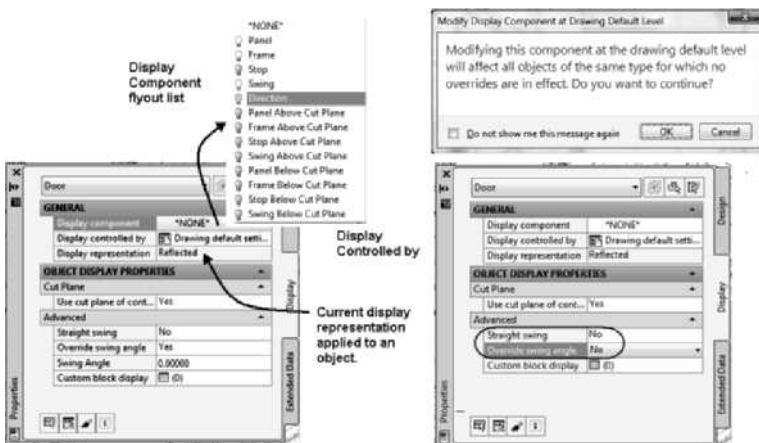

FIGURE 1.60 Setting door display for the Reflected display representation
22. Click on the right viewport. Verify that the display representation of the door is Reflected in the Display tab of the Properties palette. Verify that Display controlled by is set to **Drawing default setting** in the Properties palette. Choose the drop-down list for the Display Component and choose the **Direction** component. Click on the light bulb icon to display the component as shown in Figure 1.60. Since this setting deviates from the drawing default, the **Modify Display Component at Drawing Default Level** dialog box opens. Choose **OK** to accept the change.
25. Doors are not shown in the open position as defined in settings for the Reflected display representation. From the Advanced section of the Display tab shown in Figure 1.60, choose **No** for the Override swing angle. Move the cursor from the palette to view the doors in the open position.